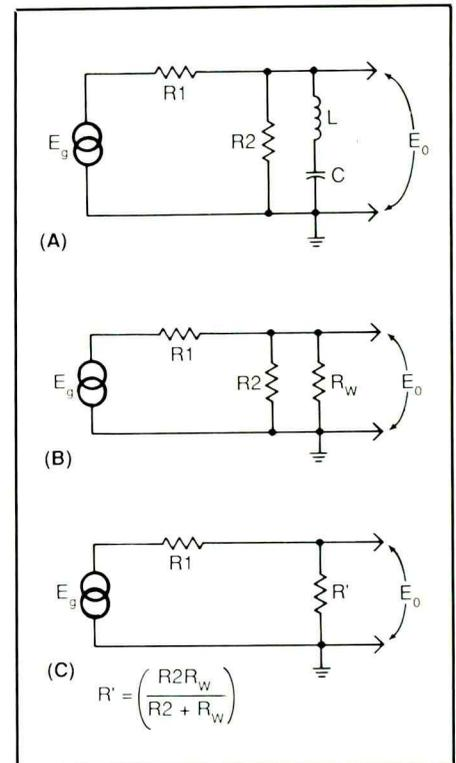
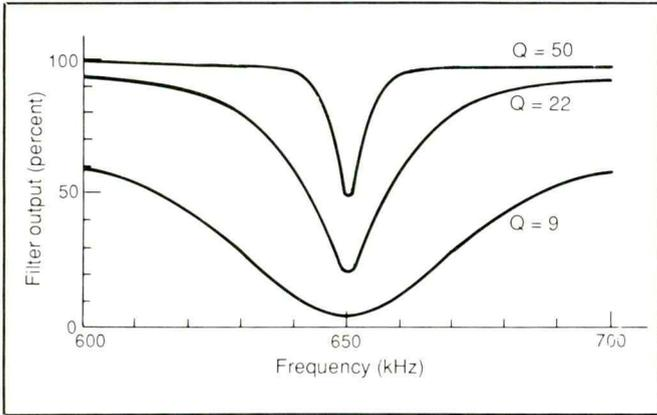

Fig. 2. A high-Q series circuit filter and equivalent circuits at resonance.
Fig. 3. Frequency responses of high-Q series filter circuits.
Having more than one "hot" stake also allows you to orient your stakes in relation to the water pipe to permit you to transmit and receive in different directions. The two stakes shown in Fig. 3 have different optimal directions for communication, based on their positions in relation to the water-pipe ground. Either stake could be used with the one "hot" stake method to communicate in its own optimal direction. Alternatively, both stakes could be used with the two-stake method to communicate with an earth station located straight behind them.
cy ( $Q = f_{\text{notch}} / \text{bandwidth}$ ), an additional resistance,  $R2$ , must be added to provide a low-resistance path for the circulating current between the capacitor and inductor at resonance. In Fig. 2(A), the smaller in value  $R2$  is made, the higher the Q of the circuit. At resonance, the circuit acts as though coil resistance  $R_w$  is in parallel with  $R2$ , as illustrated in Fig. 2(B). The effect of combining  $R2$  and  $R_w$  into one equivalent resistance is
shown as  $R'$  in Fig. 2(C).
Results of the Fig. 2(A) circuit are shown in Fig. 3. The bandwidth of the notch is smallest for highest Q condition ( $R2$  with a value of 10 ohms). However, the output voltage